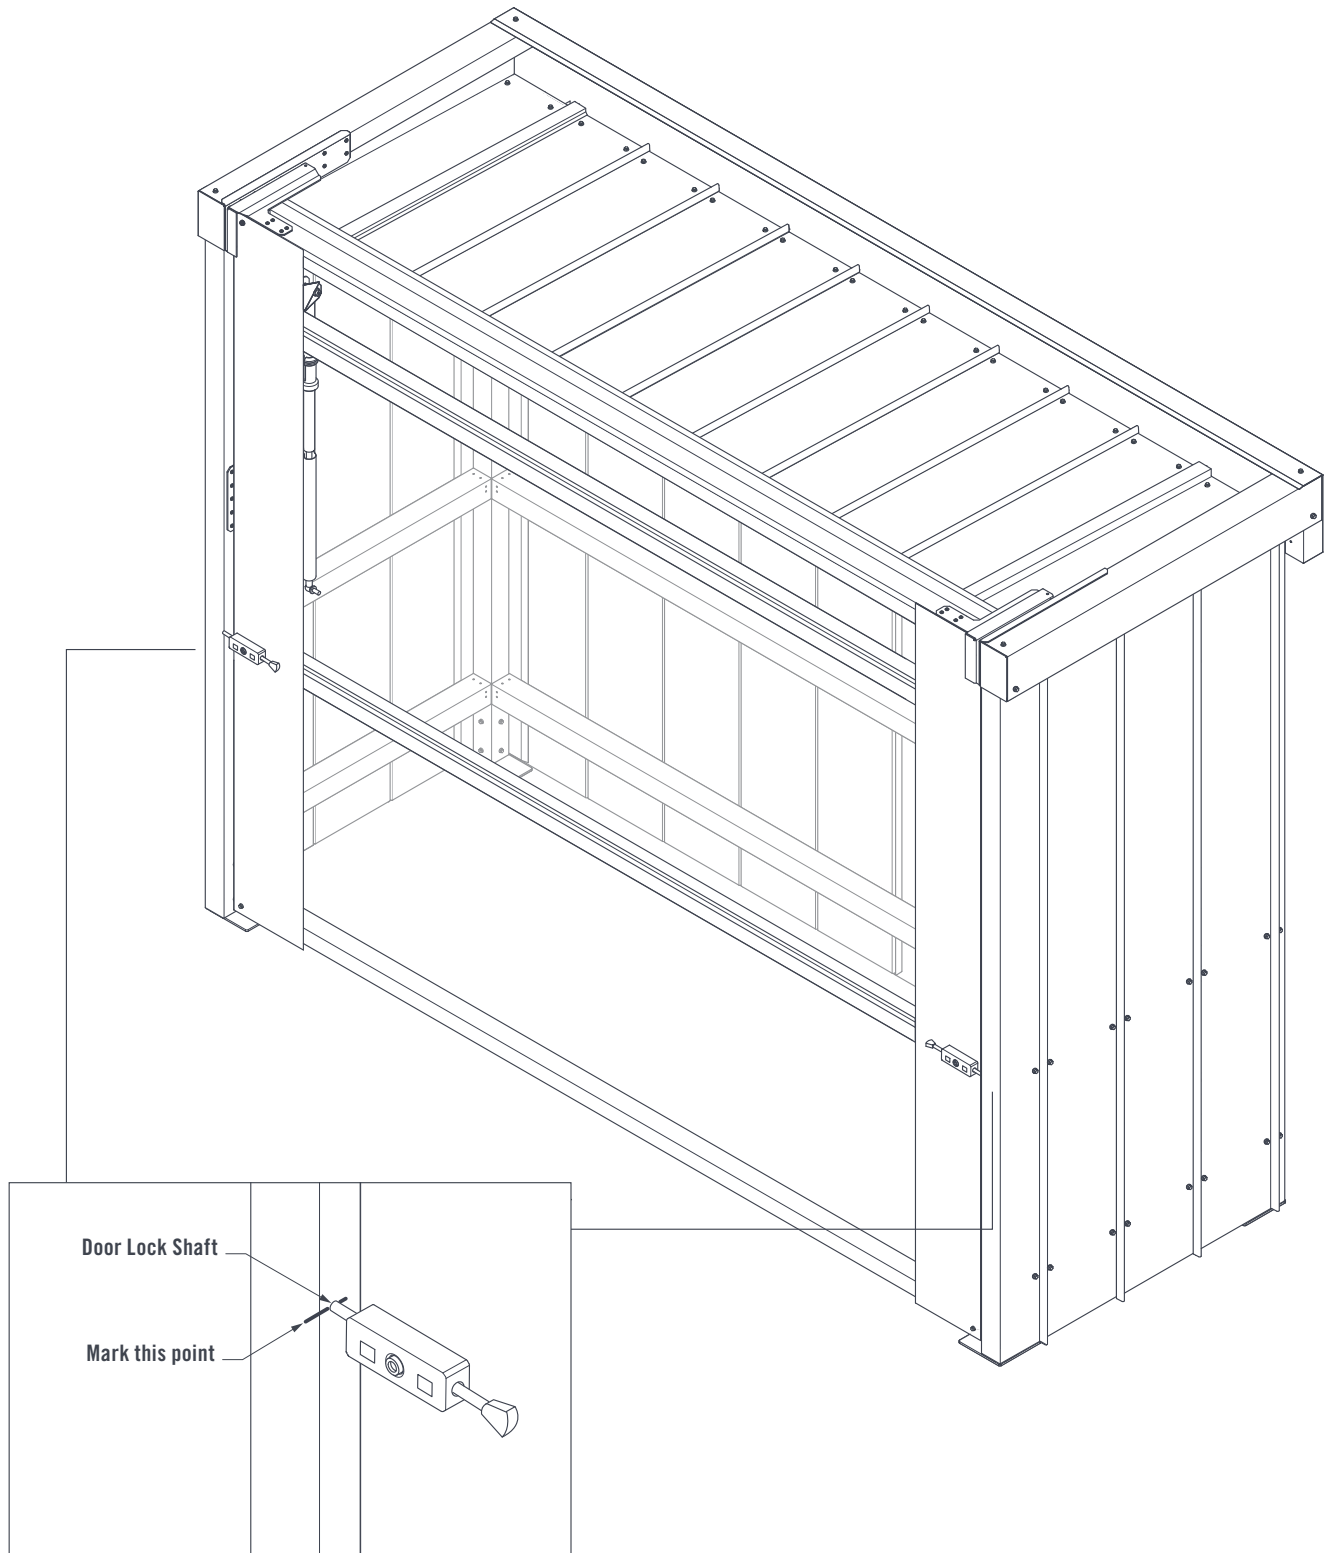

FIGURE 10.3
Mark the location of both Door Lock Shafts against the Front Wall Flashings (Figure 10.3).
- 1) Using the mark from **Figure 10.3** as a guide, measure and mark the location of the Door Lock Shaft hole 15mm from the front edge of the Front Wall Flashings (Figure 10.7) Use a Step Drill Bit to drill a 20mm hole through the Front Wall Flashings.